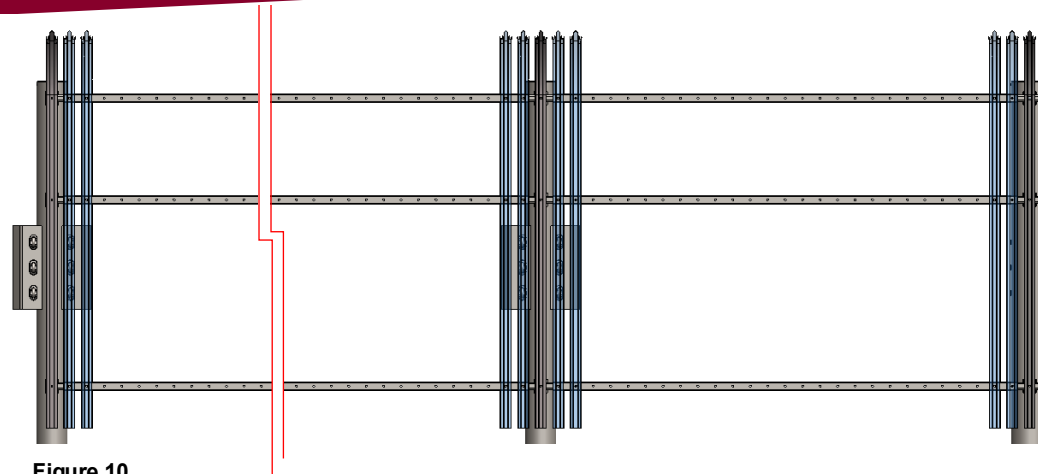

Figure 10
- Mount the Pales, in either direction (left to right/or right to left) as shown. (Fig. 10)
Continue mounting the pales onto the cross rails on every subsequent post, using M8x70mm Mushroom Head Bolts, Self-Breaking Nuts and Washers. (Fig. 10)